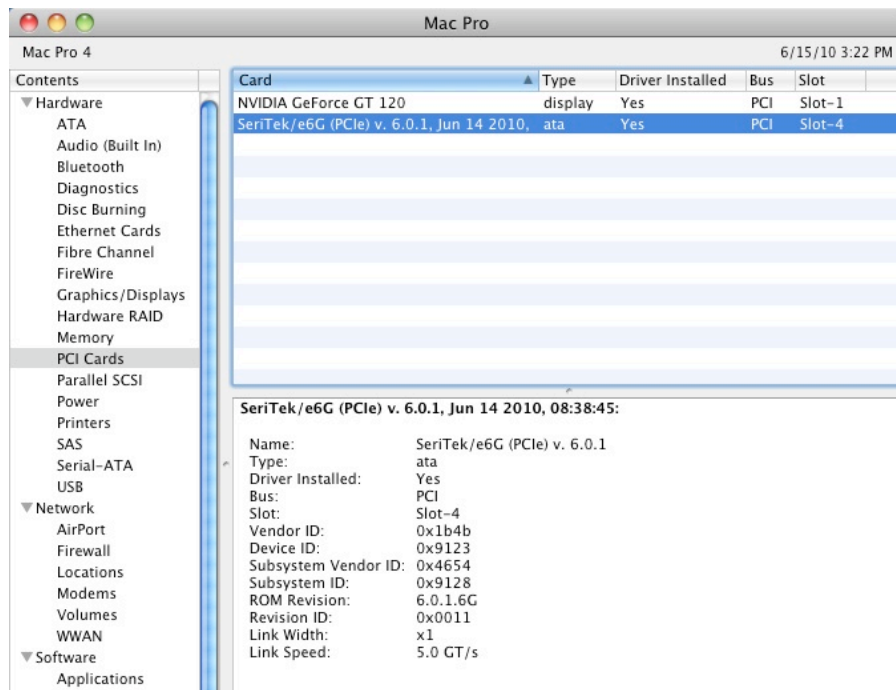

Figure 14: SeriTek/e6G Listed Under *PCI Cards*
2. Select *PCI Cards* (Figure 14).